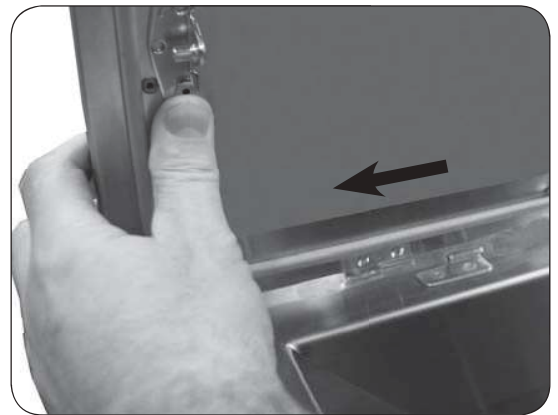

Fig. 3-2 Remove lid
3. Slide the lid to the left to remove it from the unit (see Fig. 3-2).